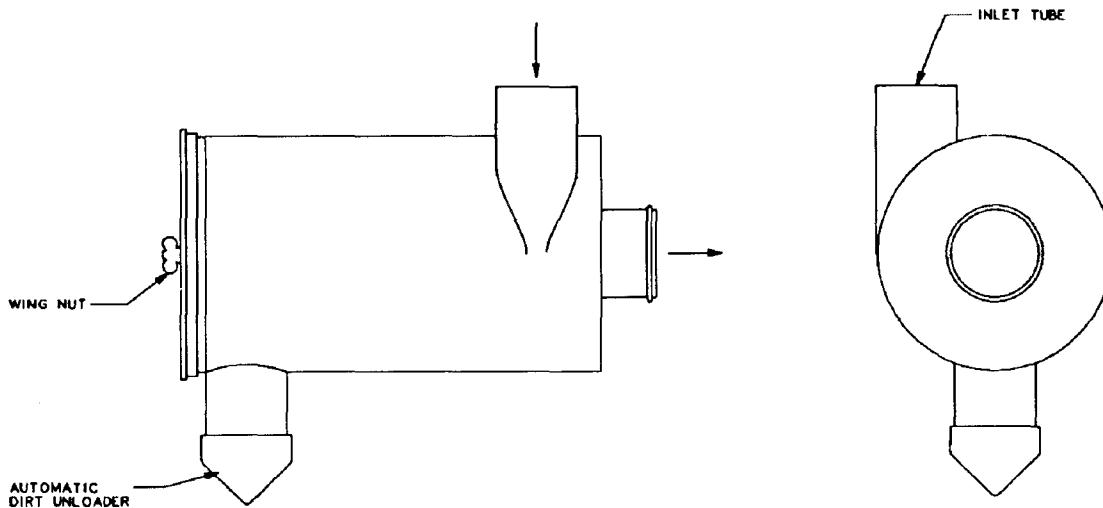

FIGURE 6-1 - AIR FILTER
**AIR FILTER** (Figure 6-1) furnished as standard equipment is a washable element dry type filter. The air filter must receive proper maintenance if maximum service is to be obtained from the unit. Improperly maintained air filter can cause a loss of compressor air delivery.